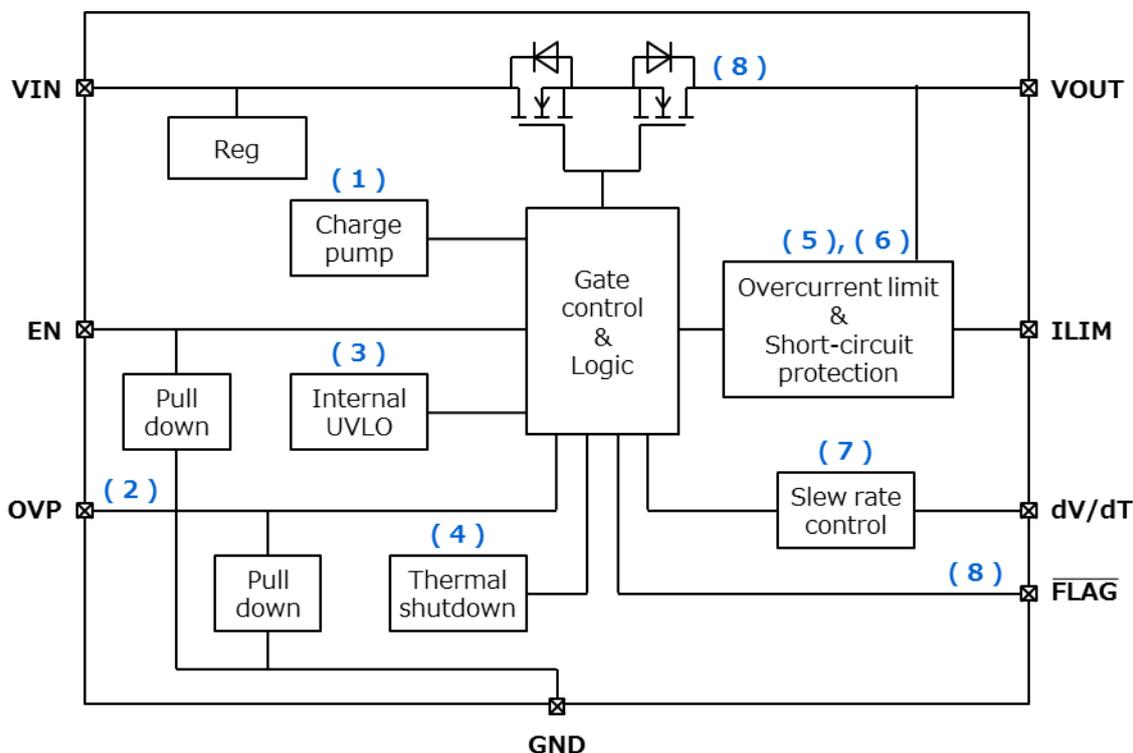

Figure 5.1 Block diagram of the TCKE712BNL
6.1. Charge pump [Figure 5.1(1)]
6.2. Overvoltage protection circuit [Figure 5.1(2)]
6.3. Undervoltage lockout (UVLO) circuit [Figure 5.1(3)]
6.4. Thermal shutdown circuit [Figure 5.1(4)]
6.5. Overcurrent protection circuit [Figure 5.1(5)]
6.6. Short-circuit protection circuit [Figure 5.1(6)]